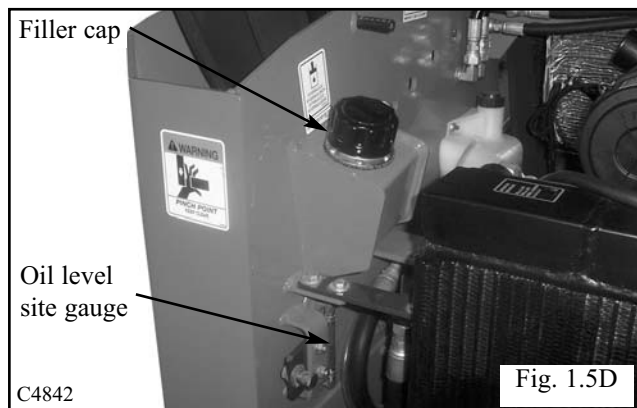

Fig. 1.5D
- Replenish the oil reservoir as required with API 10W30 class SJ. (Fig. 1.5D)